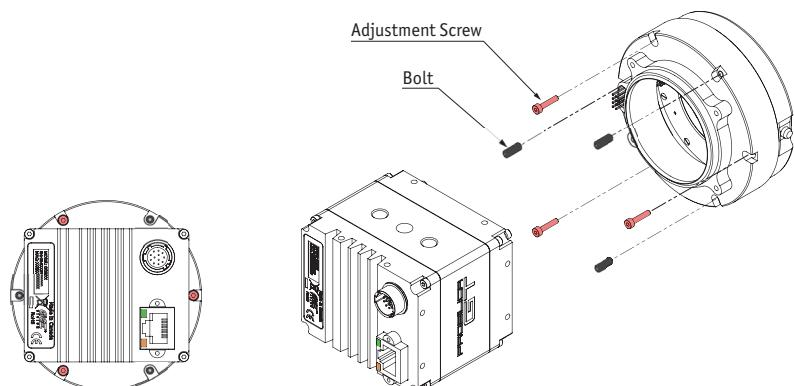

Figure 47: Back view (left) and exploded view (right) of Prosilica GT1930L camera assembly showing the adjustment screws and bolts in the EF-Mount
- Adjust the three adjustment screws, as indicated in figure 47, until all targets are in focus.